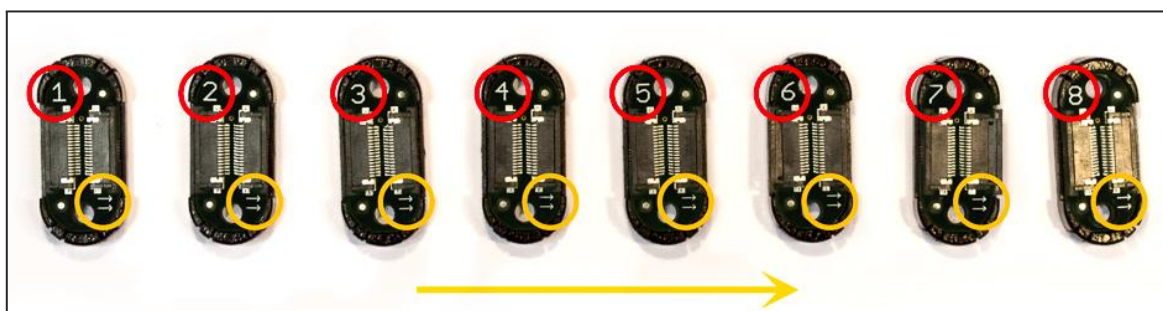

Figure 5. Sensor ascending numeric order
Before connecting, make sure that the sensors are (1) positioned in the correct numeric order and (2) facing the same direction (See Figure 5).
Each sensor is marked with a number (1 to 8), and a direction arrow for connection (Figure 5). Please double-check that the sensor units are placed in ascending order (1, 2,